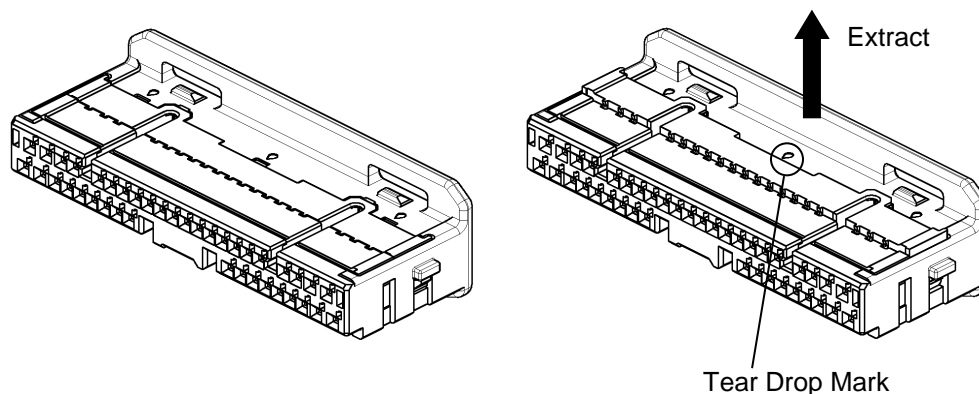

Fig.11
- (1) Insert the jig, 1mm blade screwdriver, into the window of the retainer pointed by the tear drop mark. See Fig.11.
- (2) Draw out the retainer, about 1mm, to pre-assembled condition. Confirm that all of the projection is unlocked. See Fig.11.